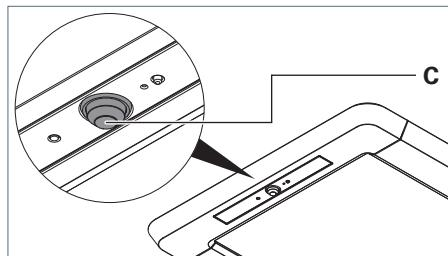
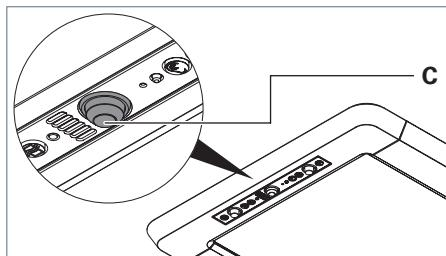

Fig. 23: PIR sensor, version R.
Fig. 24: PIR sensor, version RX.
- Set the ball head **C** of the PIR sensor to the required direction, see Fig. 23 and see Fig. 24.